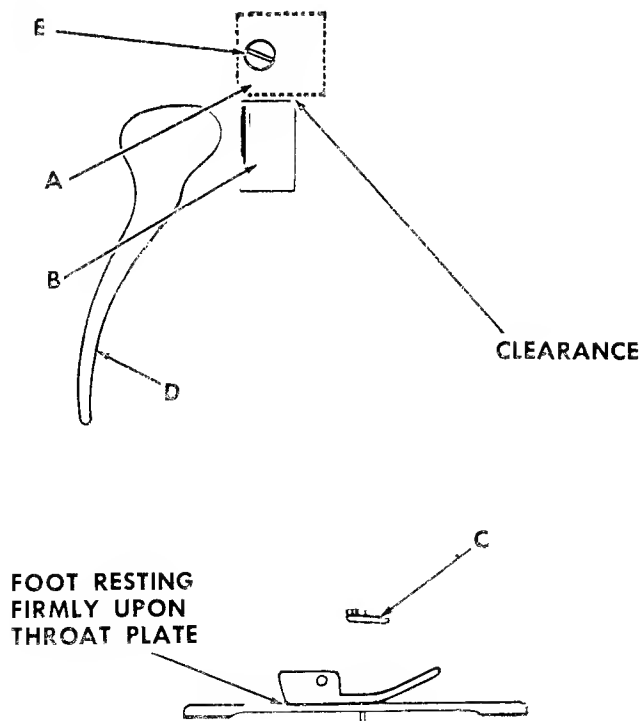

Fig. 28. Checking Height of Presser Bar
2. When presser foot rests firmly upon throat plate (with feed dog below throat plate) there should still be some clearance between guide bracket **A**, Fig. 28 and lifting bracket **B**, as shown in Fig. 28.
3. When presser foot is at its highest point and needle bar is at its lowest, top of presser foot should clear the needle thread eyelet **C**, Fig. 28 at the lower end of needle bar.
- Release the presser bar lifting lever **D**, Fig. 28, lowering the presser foot.
- Loosen clamping screw **E**, Fig. 28.
Whenever guide bracket **A**, Fig. 28 has been moved on presser bar, check the setting of check spring as instructed on page 14.